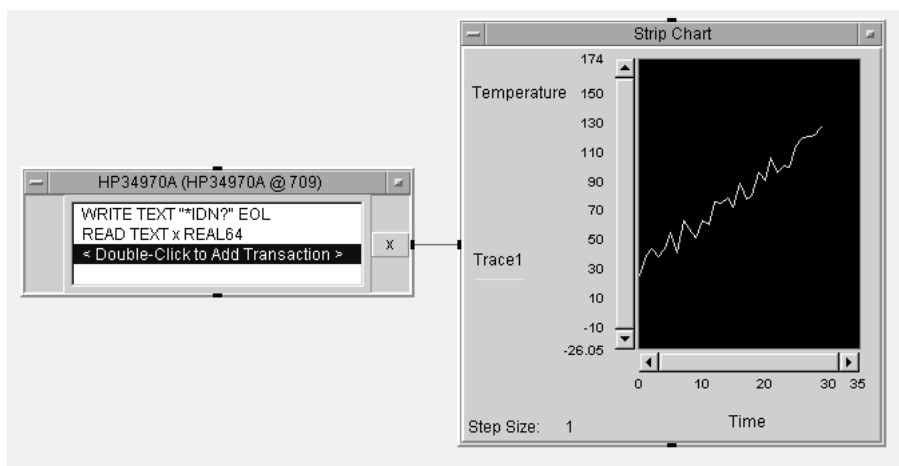

Figure 4.6. Simulation of Instrument Driver Added Manually
18. Add transactions to the Direct I/O object as shown in Figure 4.6.
19. Connect the output of the 34970A Transaction box to the Strip Chart; set the Strip Chart Time scale to 30 by clicking on the Time label; set the Temperature scale to 200 by clicking on the Temperature label. See Figure 4.6.